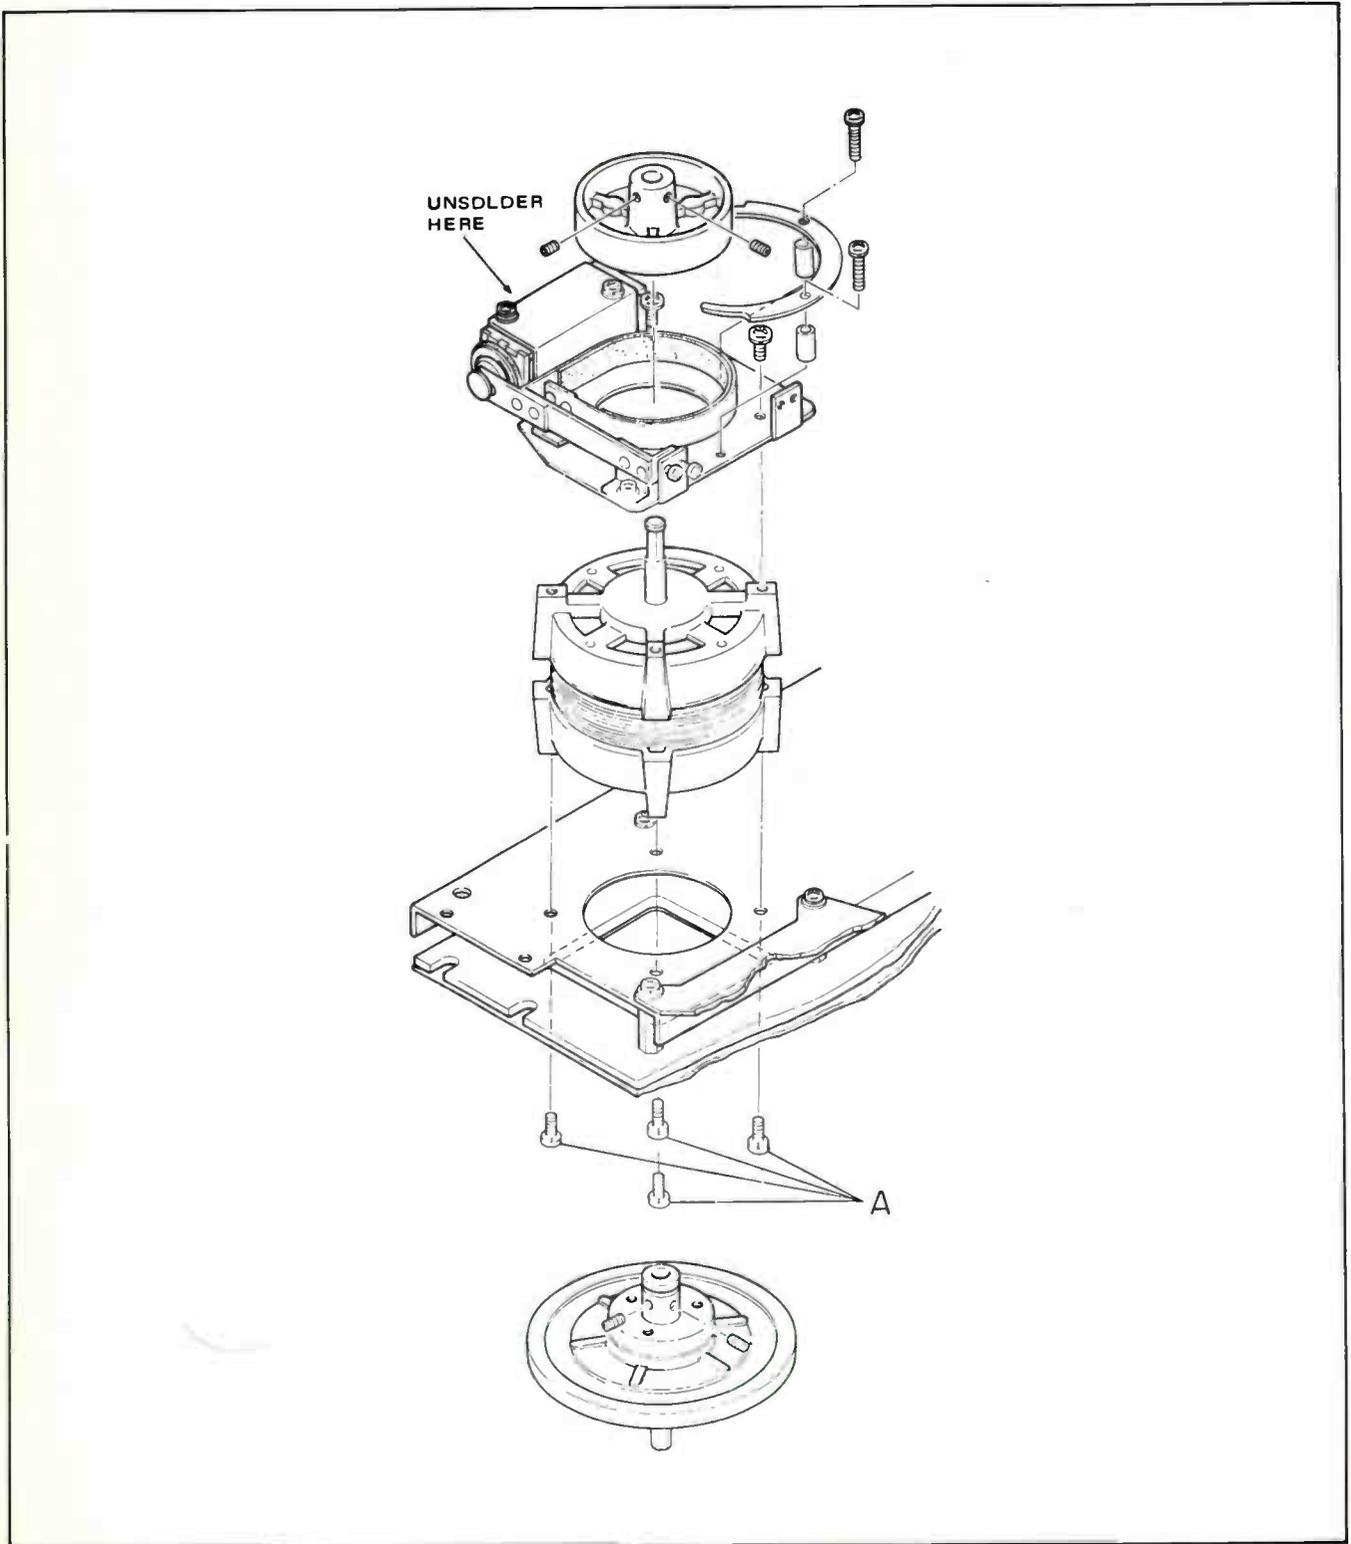

Figure 5-28. Reel Motor Assembly Removal
2. Through the front access hole under the reel table, remove the four screws holding the reel motor assembly. Screws are marked A in Figure 5-28.